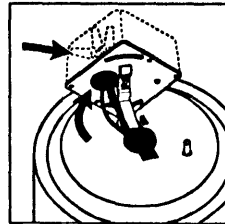

Fig. 3
- Install the cylinder housing onto the twist lock hinge cover plate by guiding the "T" through the hole in the top of the cylinder and engaging into the two small slots as shown in Fig. 3.